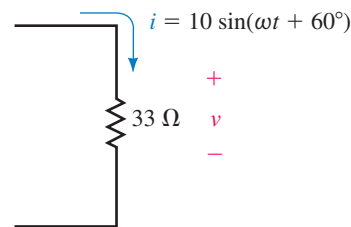

FIGURE 18-79
4. Repeat Problem 1 for the resistor of Figure 18-79.